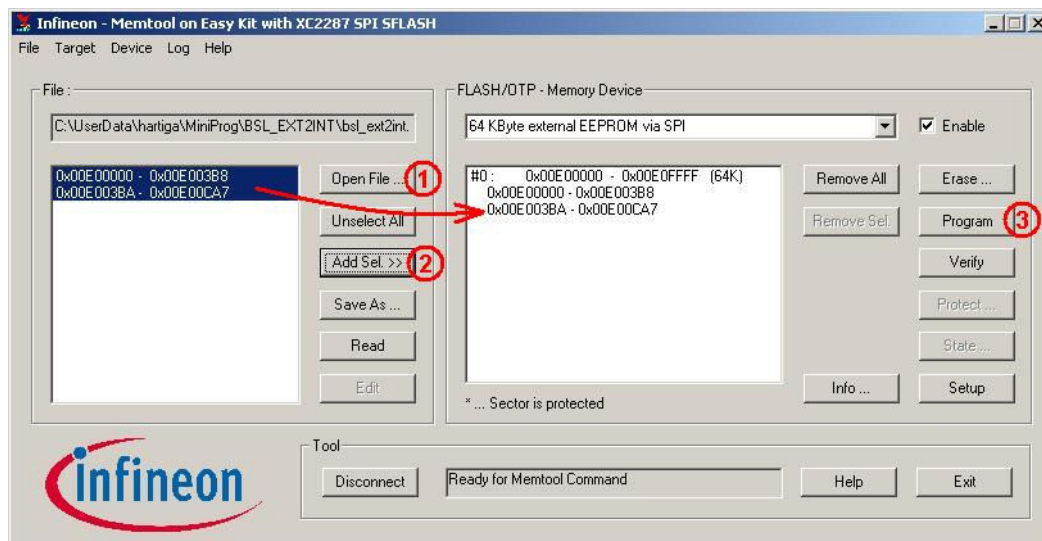

Figure 18 Programming the EEPROM
To program the loader routine into the EEPROM (see Figure 18) you open the appropriate hex-file (1), select and add all parts on the left side (2), then you simply click 'Program' (3).